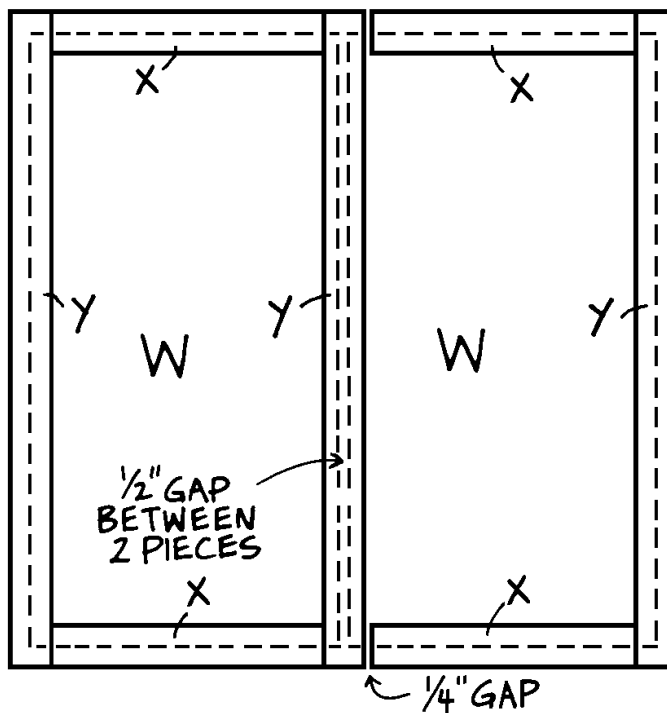

Figure 13
1. The cabinet doors are constructed in the same manner as the drawer fronts, with the exception that the right-hand cabinet drawer has no trim on the edge that sits next to the left-hand door. Start by cutting two 17-1/2" x 35-1/2" cabinet doors (W) from laminated pine.
2. Cut four 15-1/4"-long top/bottom door trim pieces (X) from 1 x 3 pine.
3. Cut three 37-1/2"-long side door trim pieces (Y) from 1 x 3 pine.
4. Using *Figure 13* as a guide, arrange the five trim pieces (X and Y) on a level surface. (Note the 1/4" gap between the Y piece in the center and X pieces to the right of it.) Center